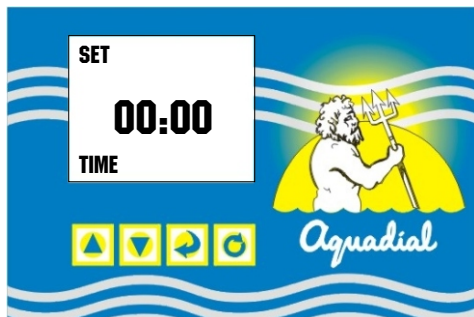

Fig1
1. SETTING THE TIME OF DAY (see Fig1)